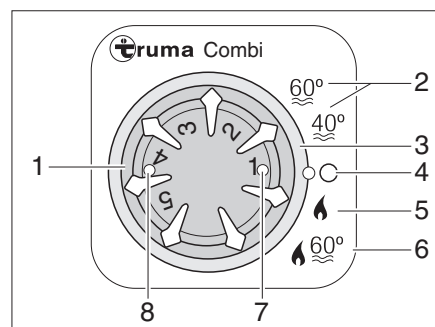

Fig. 293 Operating unit for heater/boiler
- Set the operating mode using the rotary switch (Fig. 293,3).
The heater selects the necessary burner setting according to the set heating level. In the "Heater and boiler" (Fig. 293,6) operating mode, the water in the boiler is also heated. The heater can be operated with an empty boiler in the "Heater without boiler" (Fig. 293,5) operating mode.
- Turn the temperature control knob (Fig. 293,1) on the operating unit to the desired heating level.
- Set the rotary switch (Fig. 293,3) to winter operation "Heater without boiler" (Fig. 293,5) or to winter mode "Heater and boiler" (Fig. 293,6).
The green indicator lamp (Fig. 293,7) lights up.
- Set the rotary switch (Fig. 293,3) to "O" (Fig. 293,4).